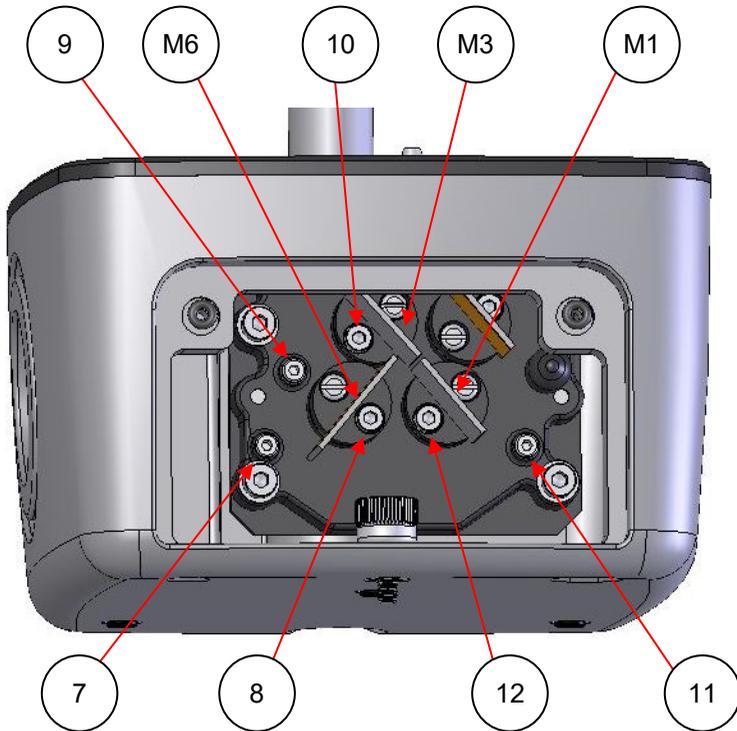

Figure 6-3: Access to Mirrors M1, M3 and M6 - Cover Plate Removed
- 7) Grub screw for M6 mirror rotation (Figure 6-3).
- 8) Cap head screw for M6 mirror tilt (Figure 6-3).
- 9) Grub screw for M3 mirror rotation (Figure 6-3).
- 10) Cap head screw for M3 mirror tilt (Figure 6-3).
- 11) Grub screw for M1 mirror rotation (Figure 6-3).
- 12) Cap head screw for M1 mirror tilt (Figure 6-3).